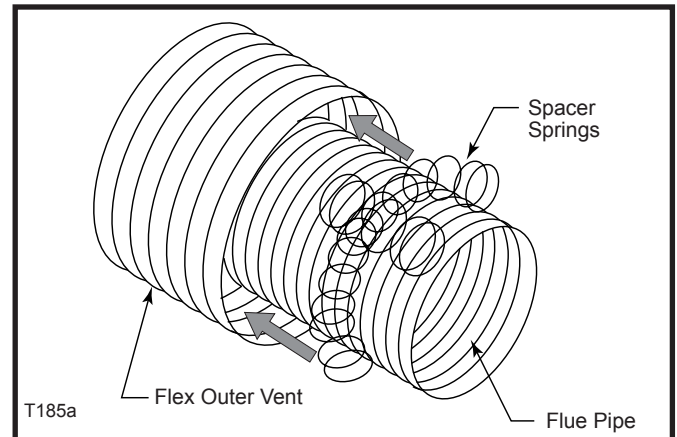
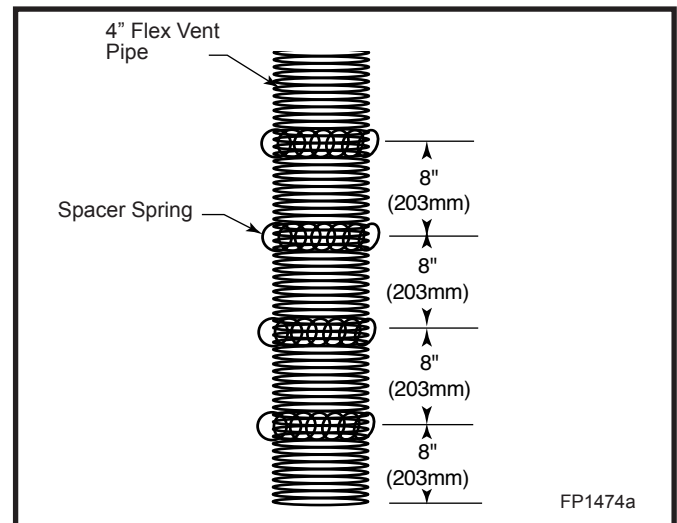

Fig. 21 Wrap spacer spring around flex flue pipe, overlapping ends.
Fig. 22 Install spacer springs.
Install the four (4) spacer springs on the 4" flex vent pipe. When installing the spacer springs around the 4" pipe, stretch the spring to approximately 15" (381 mm), wrap the spring around the pipe and interlock the ends of the spacer spring approximately 2" (51 mm). (Fig. 21) Measure 8" (203 mm) from the end of the pipe. Place the next spring 8" (203 mm) from the previously installed spring. Place the next spring approximately 8" (203 mm) from the last spring. Finally place the last spring approximately 8" (203 mm) from the last spring installed. (Fig. 22) Maintain equal spacing between spacer springs.
window well (not supplied). Refill hole with 12" (305 mm) of coarse gravel leaving a clearance of approximately 4" (102 mm) below snorkel. (Fig. 21)